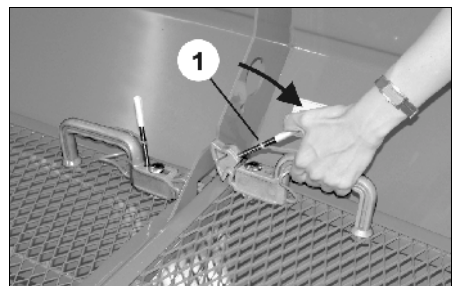

Fig. 17
- (Fig. 17/1) Unlocking position to swivel the guard screen upwards
2. Take hold of the grip and turn the unlocking tool in direction of the grip (Fig. 17).